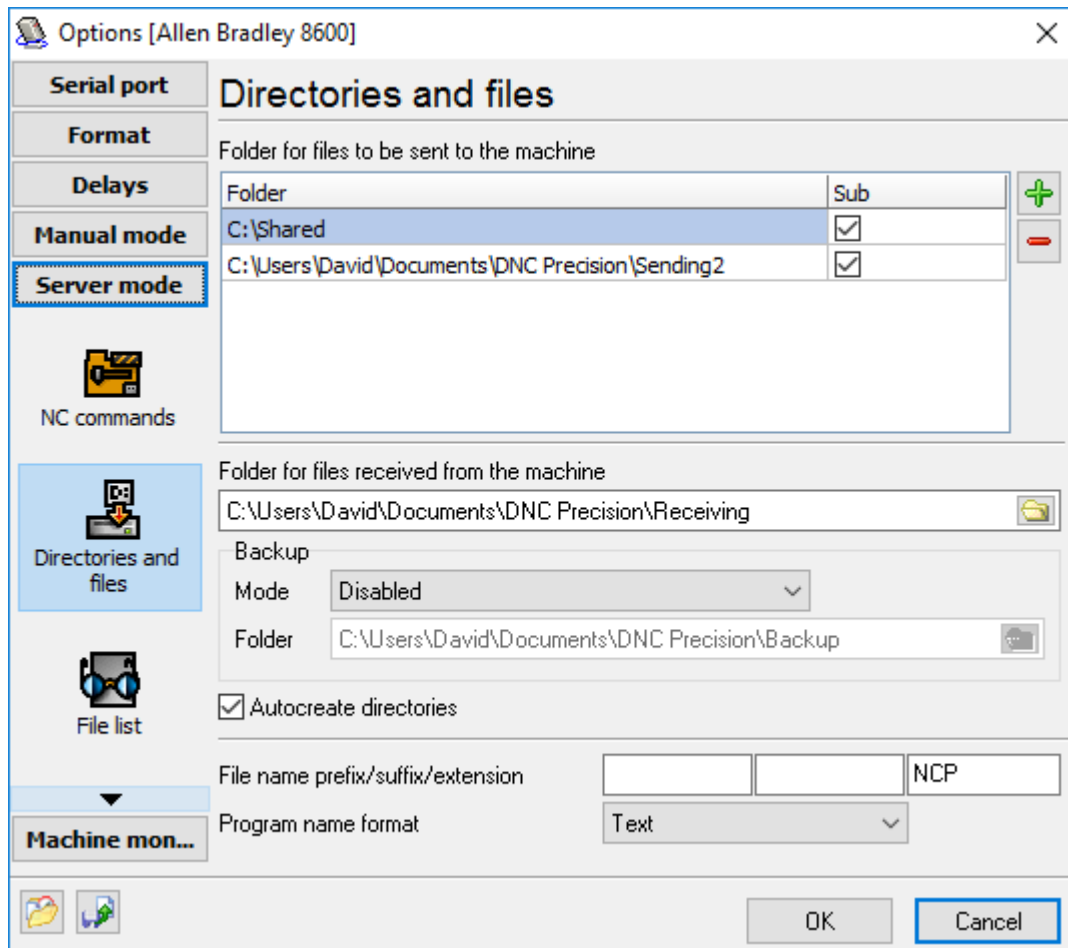

Fig. 11. Directories and files.
- **Send a file** - once the DNC server receives this command, it will queue the file the name of which was transmitted in the command body for sending. The final filename is generated from the prefix, the suffix and the extension specified on the "Folders and files" tab (fig. 11).
- **File list** - once the DNC server receives this command, it will queue the contents of the folder (or folders) specified on the "Directories and files" tab (fig. 11) in the "**Folder for files to be sent to the machine**" list for sending.
You may define multiple folders with subfolders to search a program requested. DNC Precision will send first found file that match your file name prefix, suffix and extension (see fig. 11). If your folders contain files with different extensions, you may define all your extensions in the "Extension" field. In this case, all extensions are semicolon delimited. For example, if your folders contain files like \*.nc, \*.ncp, \*.iso, then you may define the extension string like "nc;ncp;iso" (w/o quotes). In this case, the program will use all these extensions for search.